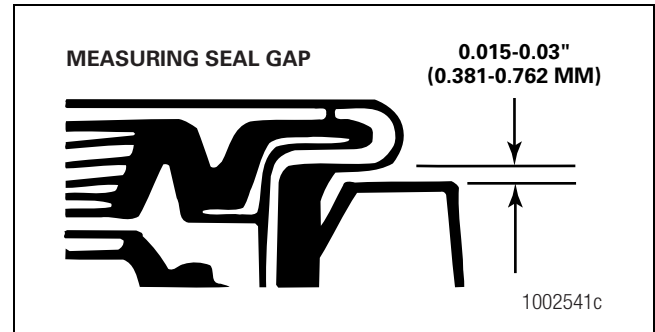

Figure 5.111
- **If the gap varies more than 0.010-inch (0.254 mm) between the highest and lowest measurement:** Remove and reseal the seal. Figure 5.111.